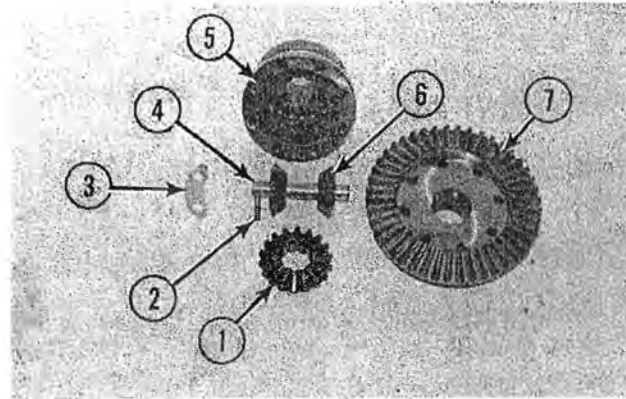

FIG. 2
Figure 2 identifies the parts of the front and rear ring gear and differential carrier sub-assemblies.
- (1, Fig. 2) Planetary gears.
- (2, Fig. 2) Retaining pin.
- (3, Fig. 2) Locking plate.
- (4, Fig. 2) Cross pin.
- (5, Fig. 2) Differential carrier.
- (6, Fig. 2) Satellite gears.
- (7, Fig. 2) Ring gear.
(1, Fig. 2) from the ring gear (7, Fig. 2) and carrier, (5, Fig. 2) pull the retaining pin (2, Fig. 2) from the face of the carrier, tap out the cross pin (4, Fig. 2) and remove the (2) satellite gears (6, Fig. 2).